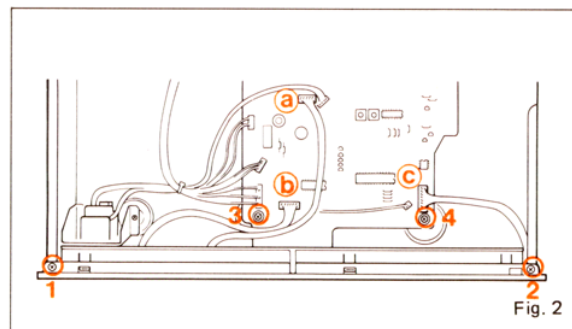
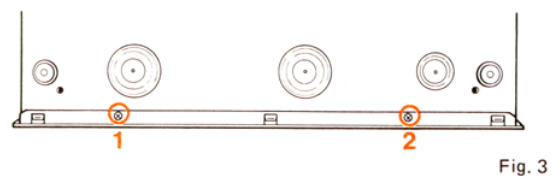

Fig. 2
Fig. 3
- 1) Pull out connectors a, b and c in Fig. 2.
- 2) Remove screws ① and ② in Fig. 2. Remove screws ① and ② in Fig. 3 and then remove the pannel unit.
- 4) Remove screws ③ and ④ in Fig. 2 and ① through ③ in Fig. 7. Remove plastic rivets ④ in Fig. 7, and then it is possible to replace the tuner circuit board.